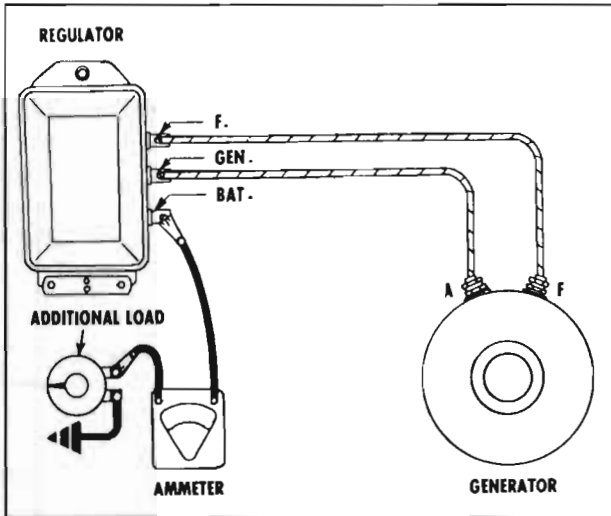

Figure 10-17—Testing Current Regulator
15. Connect a load from the charging circuit to ground on the base plate of the regulator and connect ammeter as described in your test instrument pamphlet. See figure 10-17.